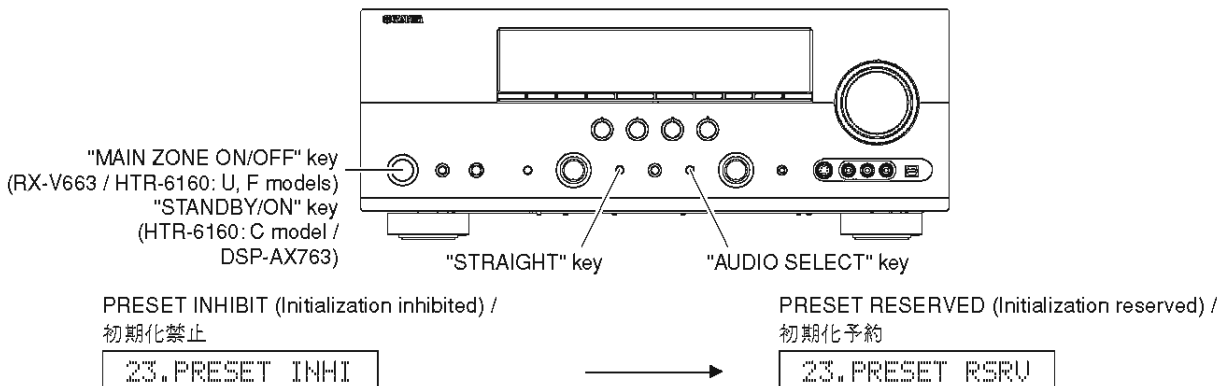

Fig. 4
2. Press the "MAIN ZONE ON/OFF" (RX-V663 / HTR-6160: U, F models) / "STANDBY/ON" (HTR-6160: C model / DSP-AX763) key while simultaneously pressing the "STRAIGHT" and "AUDIO SELECT" keys. (Fig. 4)
2. “STRAIGHT”キーと“AUDIO SELECT”キーを押しながら、“STANDBY/ON”キーを押し、ダイアグを起動します。(Fig. 4)